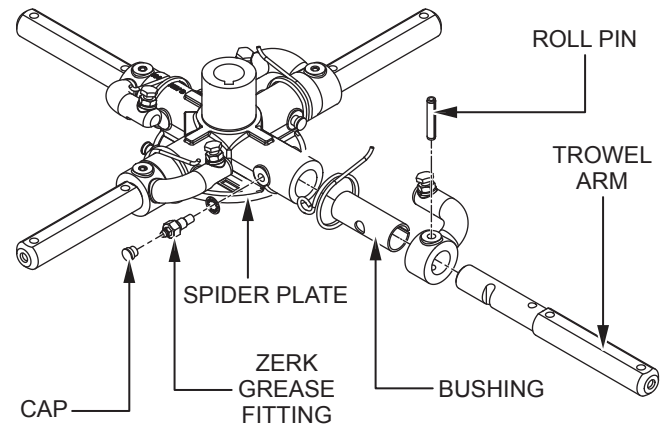

**Figure 63. Blade Removal**
- Remove the bolts and lock washers from each of the trowel arms, then remove the blades as shown in Figure 63.